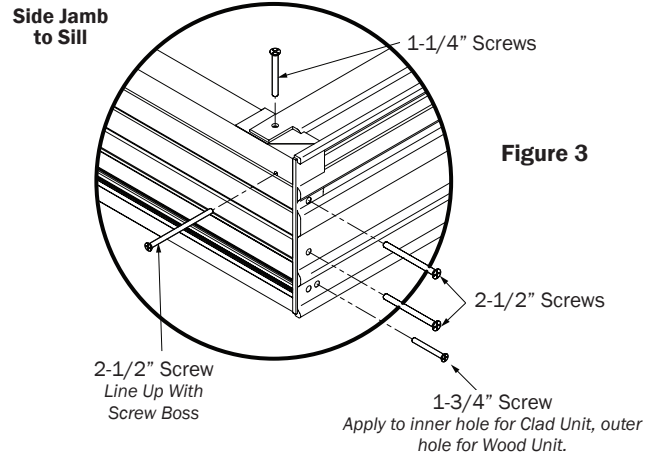

Figure 3
4. Clamp and screw sill corners together with (1) #6 x 2-1/2" Flat Head screw horizontally from side jamb into sill screw boss through pre-drilled holes, then (1) #6 x 1-3/4" Flat Head screw vertically into each side of frame cladding and note that the hole closest to the edge is for wood units only. Finally run (2) #6 x 2-1/2" Flat Head screws vertically from bottom of sill, up into side jamb (Fig. 3).